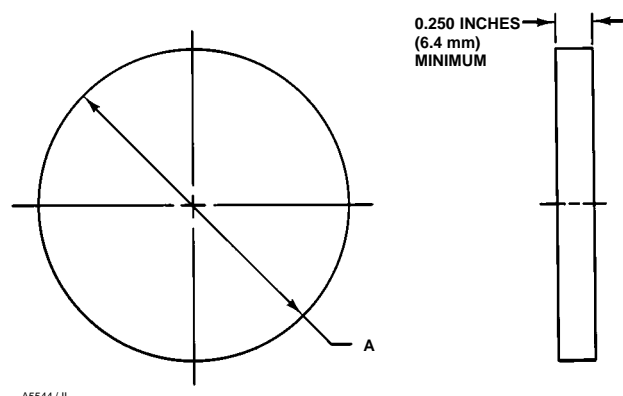

Figure 11. HD Seal Removal Plate Dimensions
- Install the gasket (key 15) on the valve body.
- Install the seal protector ring (key 3) into the valve body. (Go to step 9, page 16.)
b. **3- through 12-inch valves:** Install the composition seal (key 11) into the valve body.
- Install the seal protector ring (key 3) into the valve body. (Go to step 9, page 16)
a. Install 12 shims in the valve and install the flat metal seal on top of the shims (see figure 11).
b. Install the spring seal (key 13) on the flat metal seal (key 11) with the convex side of the spring seal facing the V-notch ball.